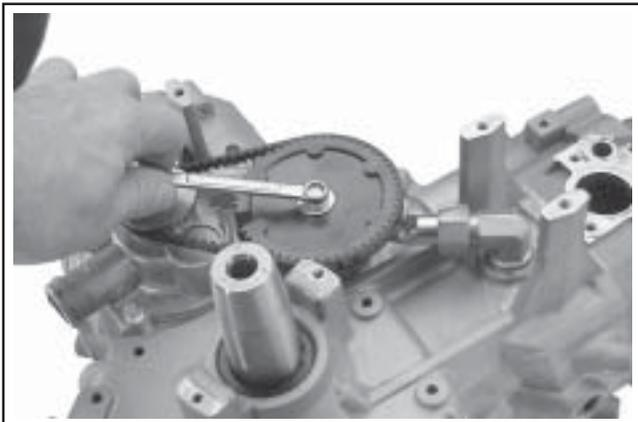

Figure 9-45. Removing Cam Pulley Hardware.
- Remove the hex flange screw and flat washer, securing the cogged drive pulley to the camshaft. See Figure 9-45.